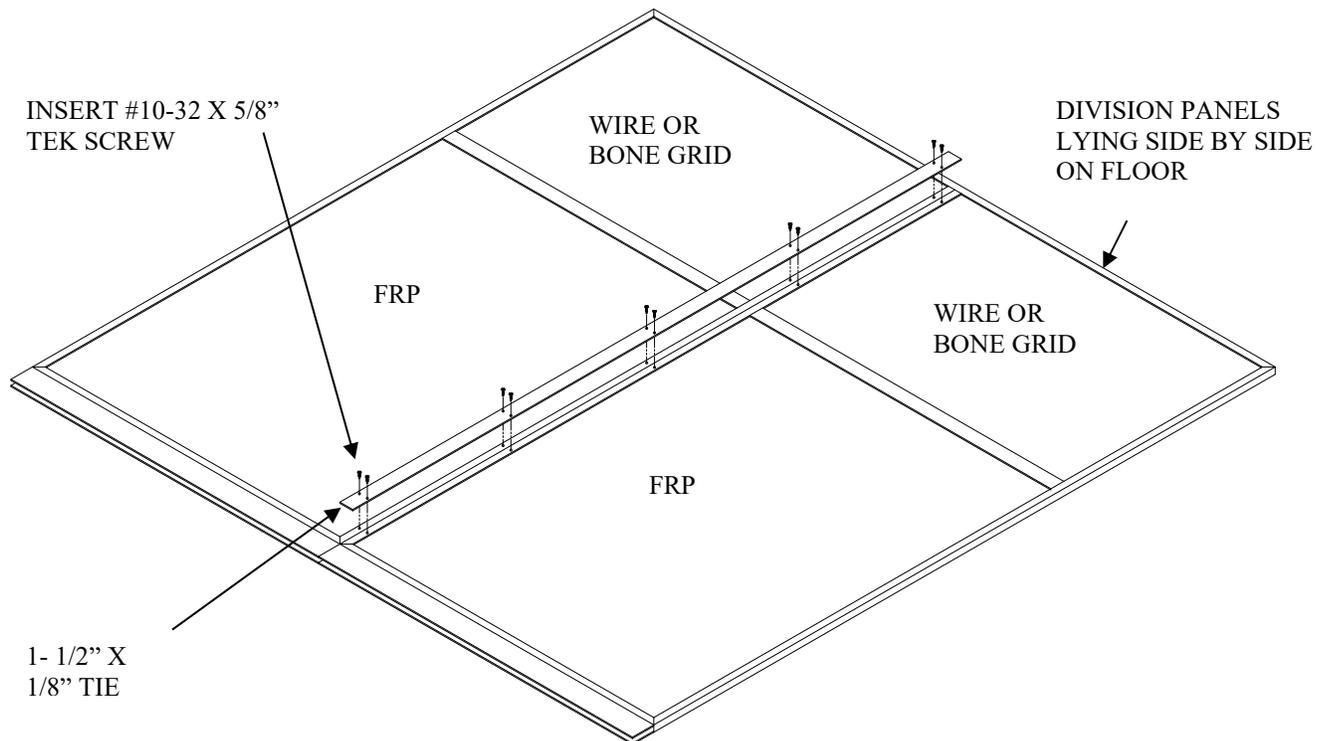

Figure 3
Each connection point of the panels should be aligned as shown on the floor plan. Note the difference in the alignment of the two panel connections shown in Figure 3. It will make a difference as to how your runs go together if you do not align the panels properly and in some cases they may not go together at all.
2. Align the top surfaces and pull the mating edges together tightly. Center the "tie plate" over the seam between the two panels as shown in Figure 3. The tie plate can be applied to either side of the panels but for appearance sake you may want to apply them consistently to the same side. Hold the panels and the tie plate so that they are flush at the top edge of the division panels and tightly pulled together.